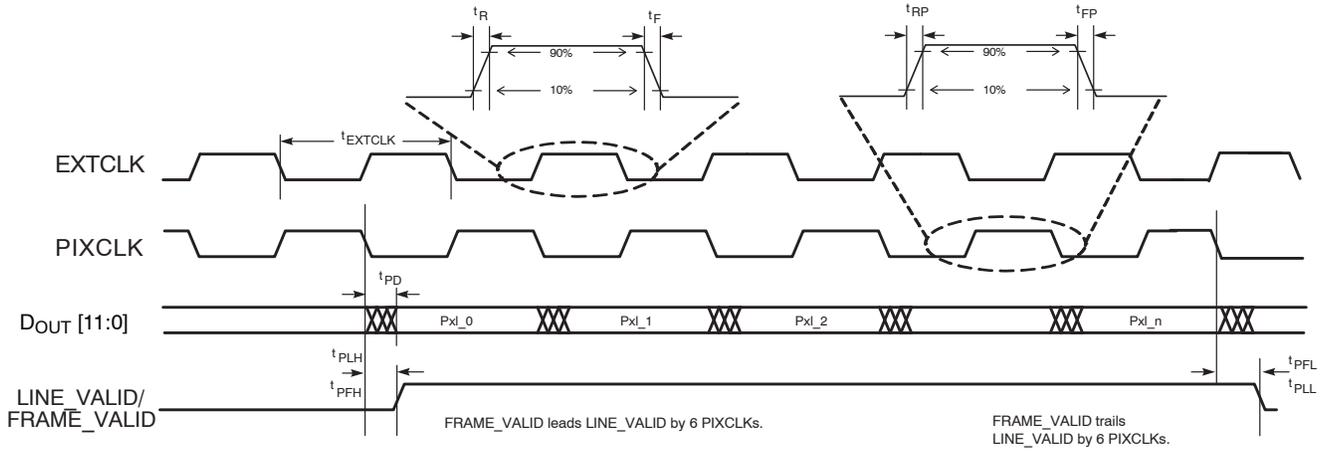

Figure 14. I/O Timing Diagram
See Figure 14 and Table 15 for I/O timing (AC) characteristics.